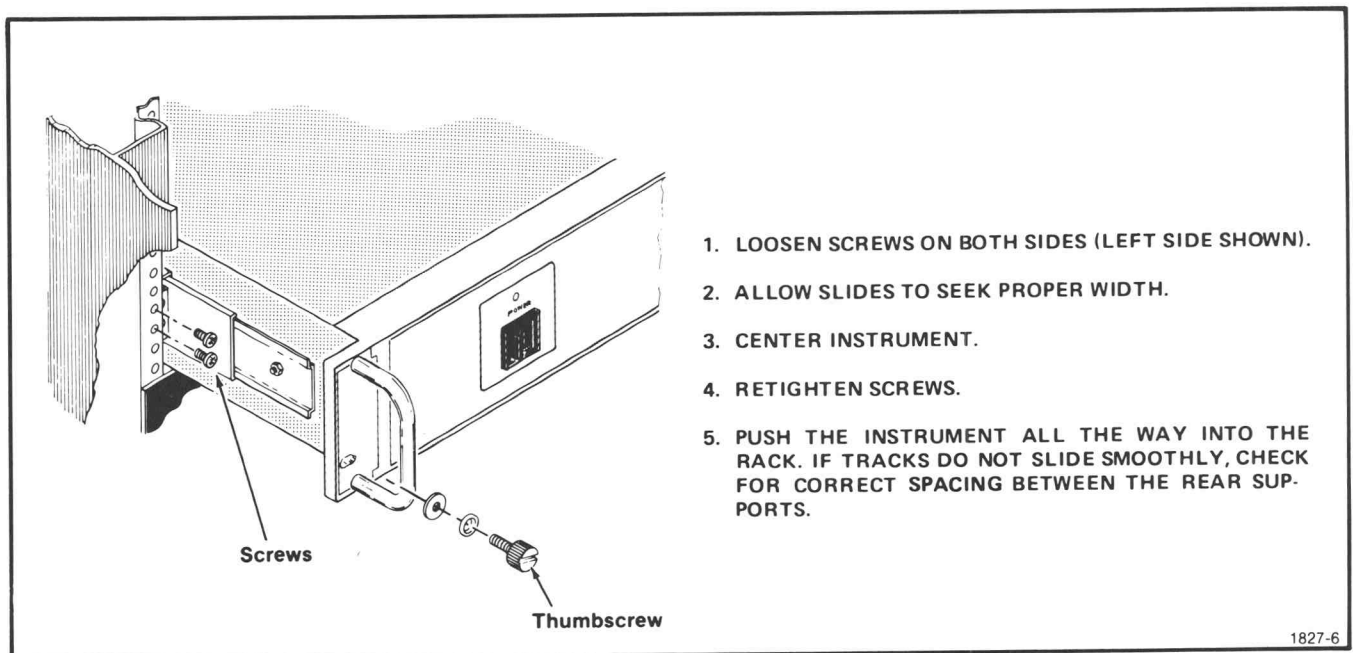

Fig. 3-11. Adjusting the slide-out tracks. (Typical instrument shown.)
6. Adjust the slide out track positions as outlined in Fig. 3-11.